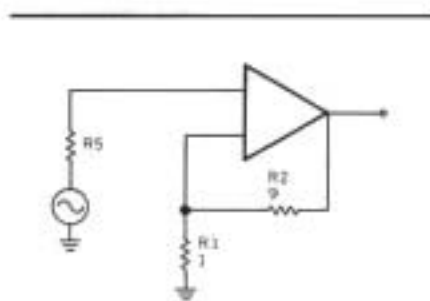

FIGURE 13: For low noise, $R2\parallel R1$ should be lower than R_L .
2. Feedback network. Because the feedback network also contributes to the total input noise, you must reduce it as much as possible. Ideally, the value of the two resistors in parallel should be lower than the lowest impedance pickup you are likely to use. Since the lowest impedance pickup is around 2Ω , it should ideally be 1Ω or so, as shown in Fig. 13. With a closed-loop gain of $10\times$ or 20dB , the amplifier output must drive a 10Ω load, which is almost equivalent to a loudspeaker load. Clearly, you will run into problems driving such a load if you need, say, 10V RMS at the output. Fortunately, this is not necessary. Most normal RIAA inputs have an input overload capability of only a few hundred mV, which is what the MC-preamp must deliver. (You may